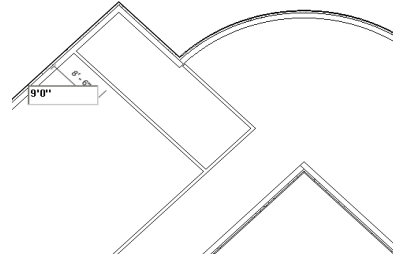

Figure 3-73 Specifying the distance of the fourth interior wall
8. Create the next wall by moving the cursor away from the specified point. Next, move it downward towards the right. When the temporary dimension appears, enter the value **9'**(**2743 mm**) and press ENTER to start the wall, as shown in Figure 3-73.